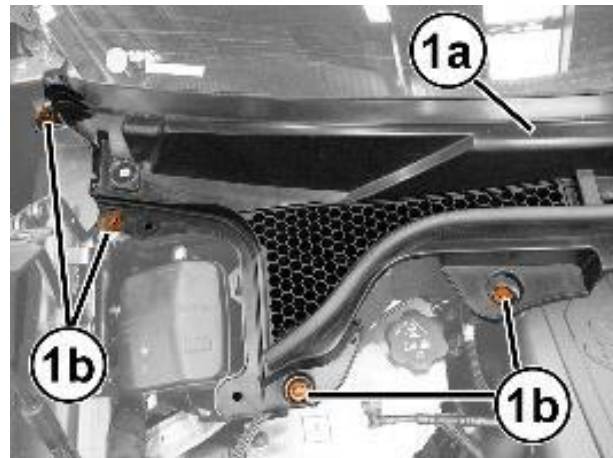

Figure 90 – Windshield Trim
27. Working on the right side of the windshield frame trim (1a), remove the screws (1b) (Figure 90).